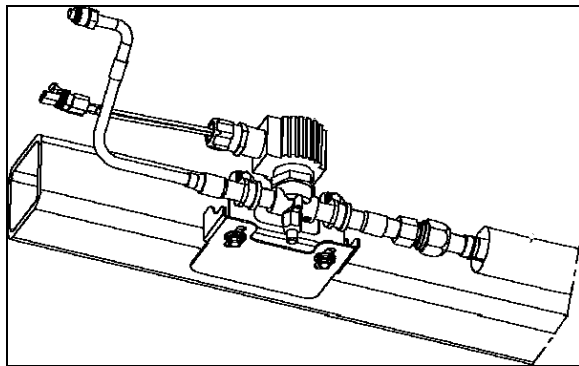

FIGURE 31: REFRIGERANT SOLENOID VALVE 22044
3. Remove the four socket head screws which hold the body and bonnet together (Figure 31).